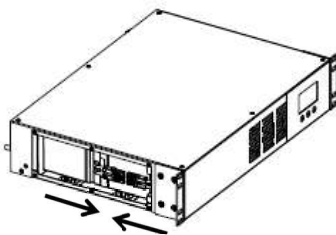

Figure 10
6. Verify proper polarity of the Anderson connectors. Slide the connectors together and press both ends until the connectors snap into place. (**FIG. 10**).